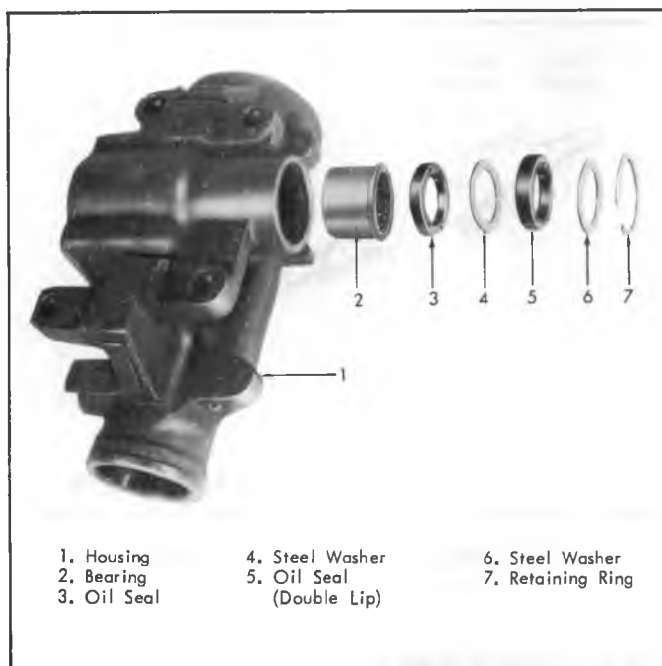

Fig. 50--Pitman Shaft Bearing and Seals
1. If pitman shaft seals **ONLY** are to be replaced, remove the seal retaining ring with Internal Pliers J-4245 and remove outer steel washer. Pry out the outer seal. Remove the inner steel washer, then pry out the inner seal (fig. 50). Discard seals.